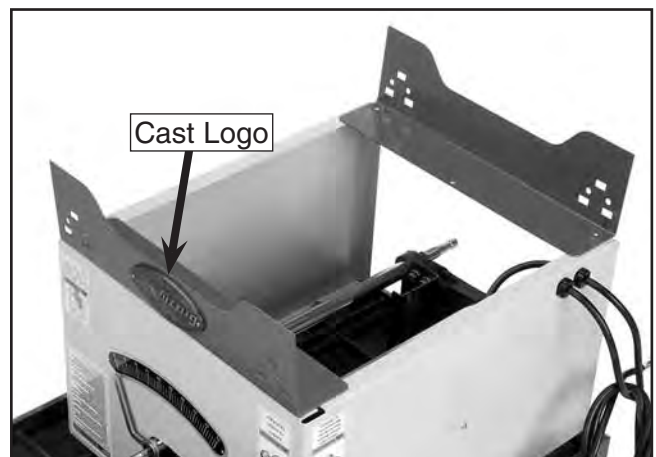

Figure 11. Top short bracket installation.
2. Place the top short brackets on the saw body, with the cast logo at the front (**Figure 11**), and secure with 4 hex bolts, 8 flat washers, 4 lock washers, and 4 hex nuts.